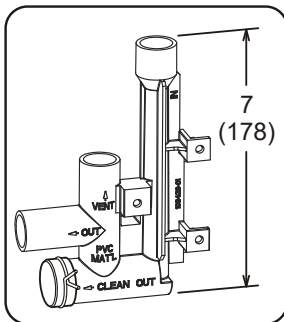

Figure 41. Trap / Drain Assembly Using 1/2" PVC or 3/4" PVC
3. Install the cap over the clean out opening at the base of the trap. Secure with clamp. See Figure 41.